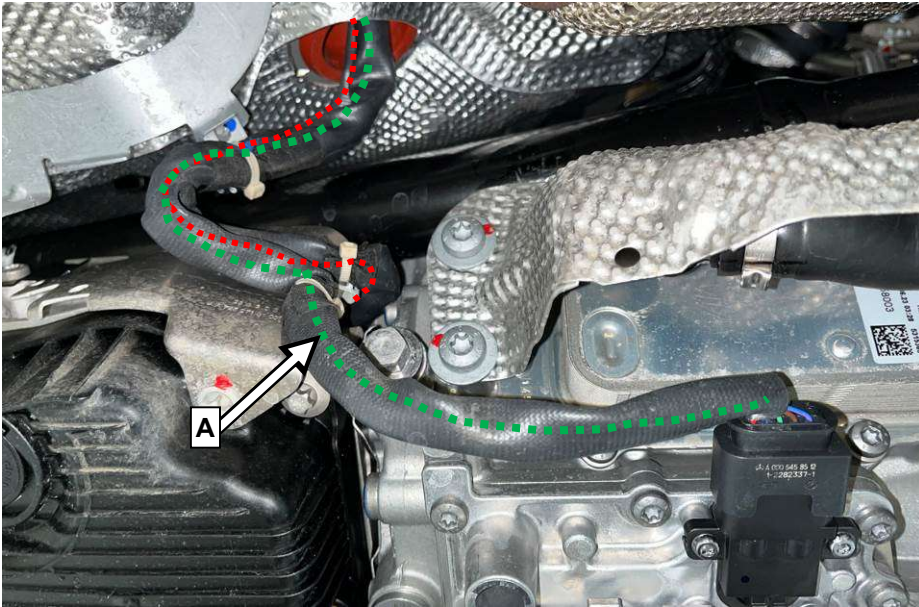

Figure 4
2. Route electrical wiring harness (**Figure 4, A**) correctly as shown
i The electrical wiring harness (**Figure 4, A**) must not be in contact with indicated parts ***in any location***.
- i** One or more of the electrical signal lines (**line cross section 0.35 mm² to 0.75 mm²**) in the electrical wiring harness (**Figure 4, A**) shows signs of damage.
2. Repair the respective affected electrical signal line (**line cross section 0.35 mm² to 0.75 mm²**) in the electrical wiring harness (**Figure 4, A**) using a line connector.
3. Route electrical wiring harness (**Figure 4, A**) correctly as shown.
i The electrical wiring harness (**Figure 4, A**) ***must not be*** in contact with indicated parts ***in any location***.